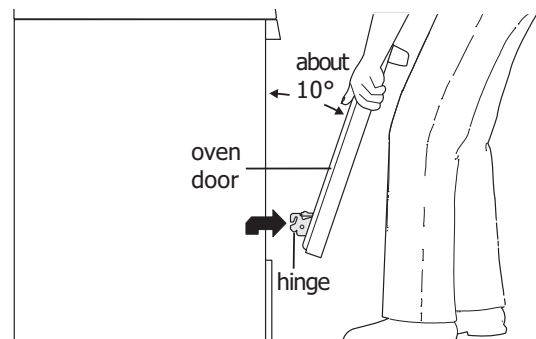
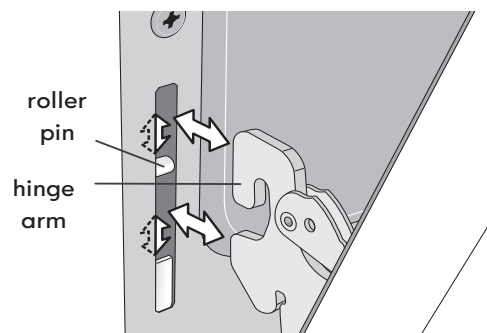

Figure 9: Holding door for removal
Figure 10: Location of hinge arm and roller pin
3. Firmly grasp both sides of oven door along the door sides. Do not use the oven door handle (See Figure 9).
5. Lift the oven door hinge arms over the roller pins located on each side of the oven frame (See Figure 9).
1. Firmly grasp both sides of oven door along the door sides. Do not use the oven door handle (See Figure 9).
2. Holding the oven door at the same angle as the removal position (See Figure 9), seat the hook of the hinge arm over the roller pins located on each side of the oven door frame (See Figure 10). The hook of the hinge arms must be fully seated onto the roller pins.